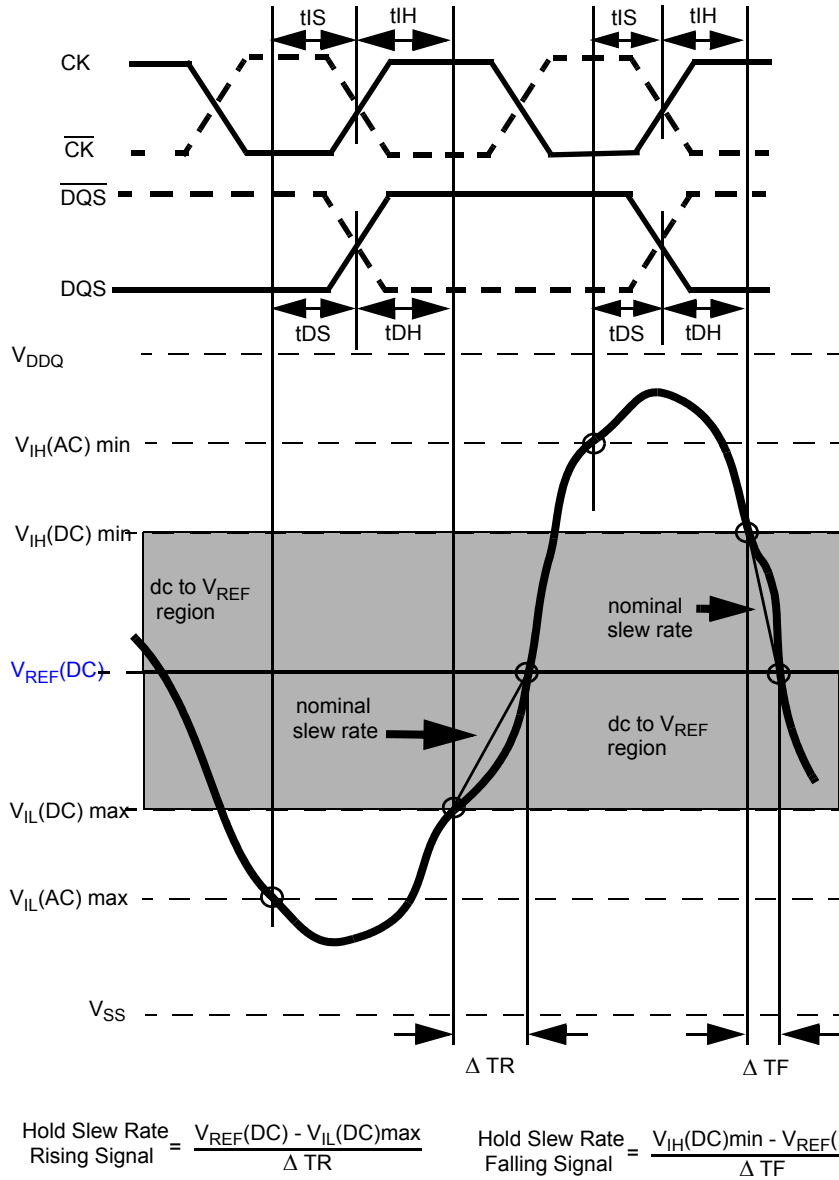
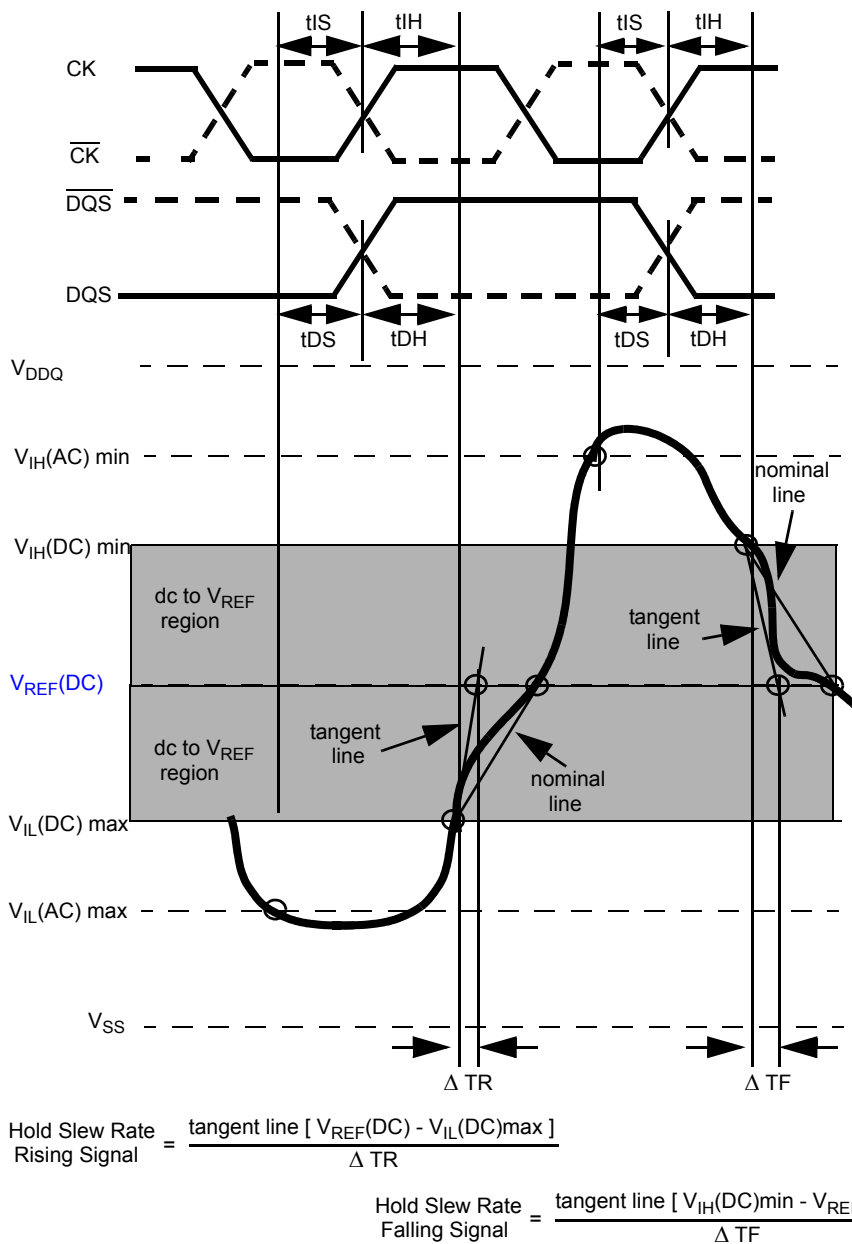

Figure 22. Illustration of nominal slew rate for hold time t_{DH} (for DQ with respect to strobe) and t_{IH} (for ADD/CMD with respect to clock).
Figure 24. Illustration of tangent line for hold time t_{DH} (for DQ with respect to strobe) and t_{IH} (for ADD/CMD with respect to clock)
Hold (tIH) nominal slew rate for a rising signal is defined as the slew rate between the last crossing of V_{IL}(DC)min and the first crossing of V_{REF}(DC). Hold (tIH) nominal slew rate for a falling signal is defined as the slew rate between the last crossing of V_{IH}(DC)min and the first crossing of V_{REF}(DC). If the actual signal is always later than the nominal slew rate line between shaded 'dc to V_{REF}(DC) region', use nominal slew rate for derating value (see Figure 22). If the actual signal is earlier than the nominal slew rate line anywhere between shaded 'dc to V_{REF}(DC) region', the slew rate of a tangent line to the actual signal from the dc level to V_{REF}(DC) level is used for derating value (see Figure 24).